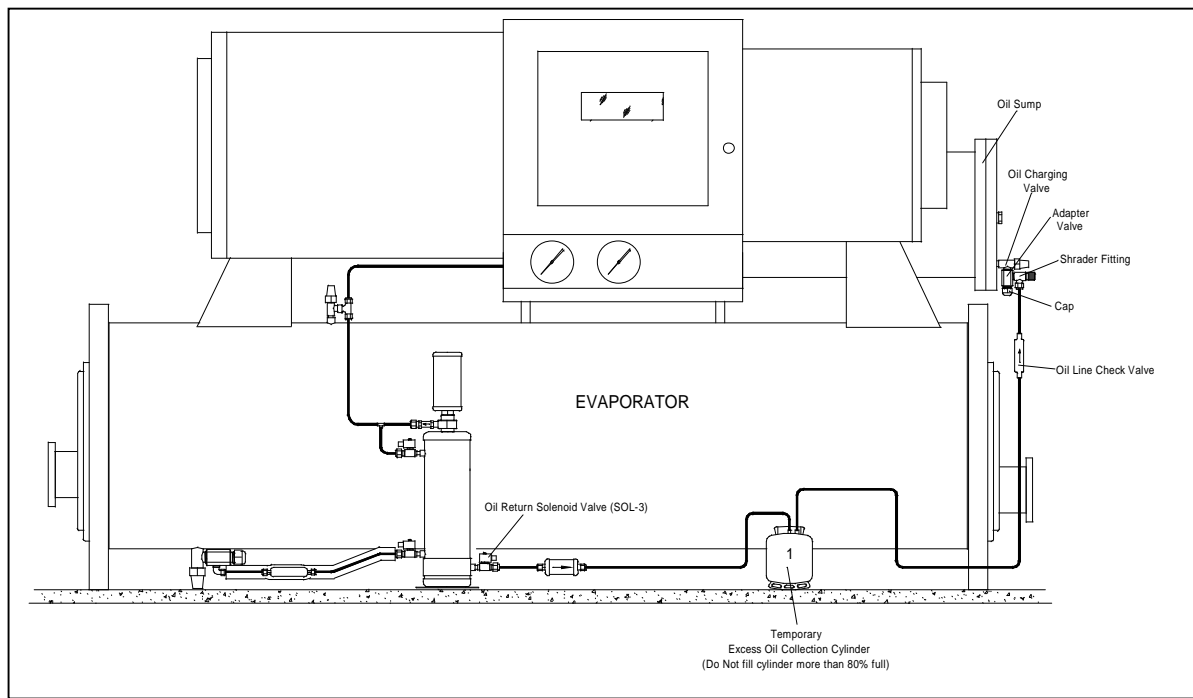

Figure 2. – CORRECT Optional Oil Collection Cylinder Hook-up
Option 2: Plumb the “**Oil Return Line**” as per “**Option (2)**” **Piping Instructions (see page 19)**. As determined by previous calculation, install sufficient containment capacity, **such as a single 50, 100, 200, etc., pound refrigerant recovery cylinder**, in the “**Oil Return**” line between the OAM Purger and the Chiller’s oil sump. The cylinder will retain and hold the excess oil as it is stripped from the refrigerant, preventing it from accumulating in the oil sump. **NOTE** that the rated capacity of a refrigerant recovery cylinder is for refrigerant which is heavier than oil, therefore a refrigerant recovery cylinder will not hold the same weight of Oil as the rated refrigerant capacity. **(See Figures 2 & 3 on page 22 which includes approximate oil holding capacities of various size refrigerant recovery cylinders.)** Once the stripping process is complete the cylinder and excess oil must be removed from the system.
CAUTION: DO NOT connect multiple cylinders in series. The excess oil collection hook-up MUST be limited to a single cylinder: i.e., a single 50, 100, or 200 lb., etc. cylinder, and MUST not be filled to more than 80% of its rated capacity. NOTE that the rated capacity of a refrigerant recovery cylinder is for refrigerant which is heavier than oil, therefore a refrigerant recovery cylinder will not hold the same weight of Oil as the rated refrigerant capacity. (See Figures 2 & 3 on page 22 which indicates the approximate oil holding capacities of various size refrigerant recovery cylinders.)
2. Plumb the selected excess oil containment vessel in the Oil-Return line **precisely** as illustrated in **Figure 2 on page 22**. Remember to install the check valve (provided in the OAM Purger Installation Kit) in the oil return line between the containment vessel and the oil sump, **as shown in figure 2, on page 22**. The **check valve MUST** be installed it prevents back flow of oil from the oil sump into the oil containment vessel.
CAUTION: Option (2) is intended only as a convenient method of dealing with excess oil. You MUST still occasionally monitor the oil sump for excessive oil accumulation since there may be more excess oil than anticipated. Refer to approximate oil holding capacities of the refrigerant recovery cylinders under Figure 2 on page 22.